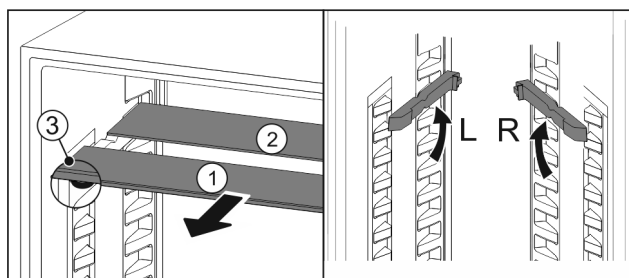

Fig. 17
- ▶ Pull the glass panels out Fig. 17 (1) from the front, one at a time.
- ▷ The glass panel Fig. 17 (1) and trim strip are at the front.
- ▷ The stops Fig. 17 (3) point down.